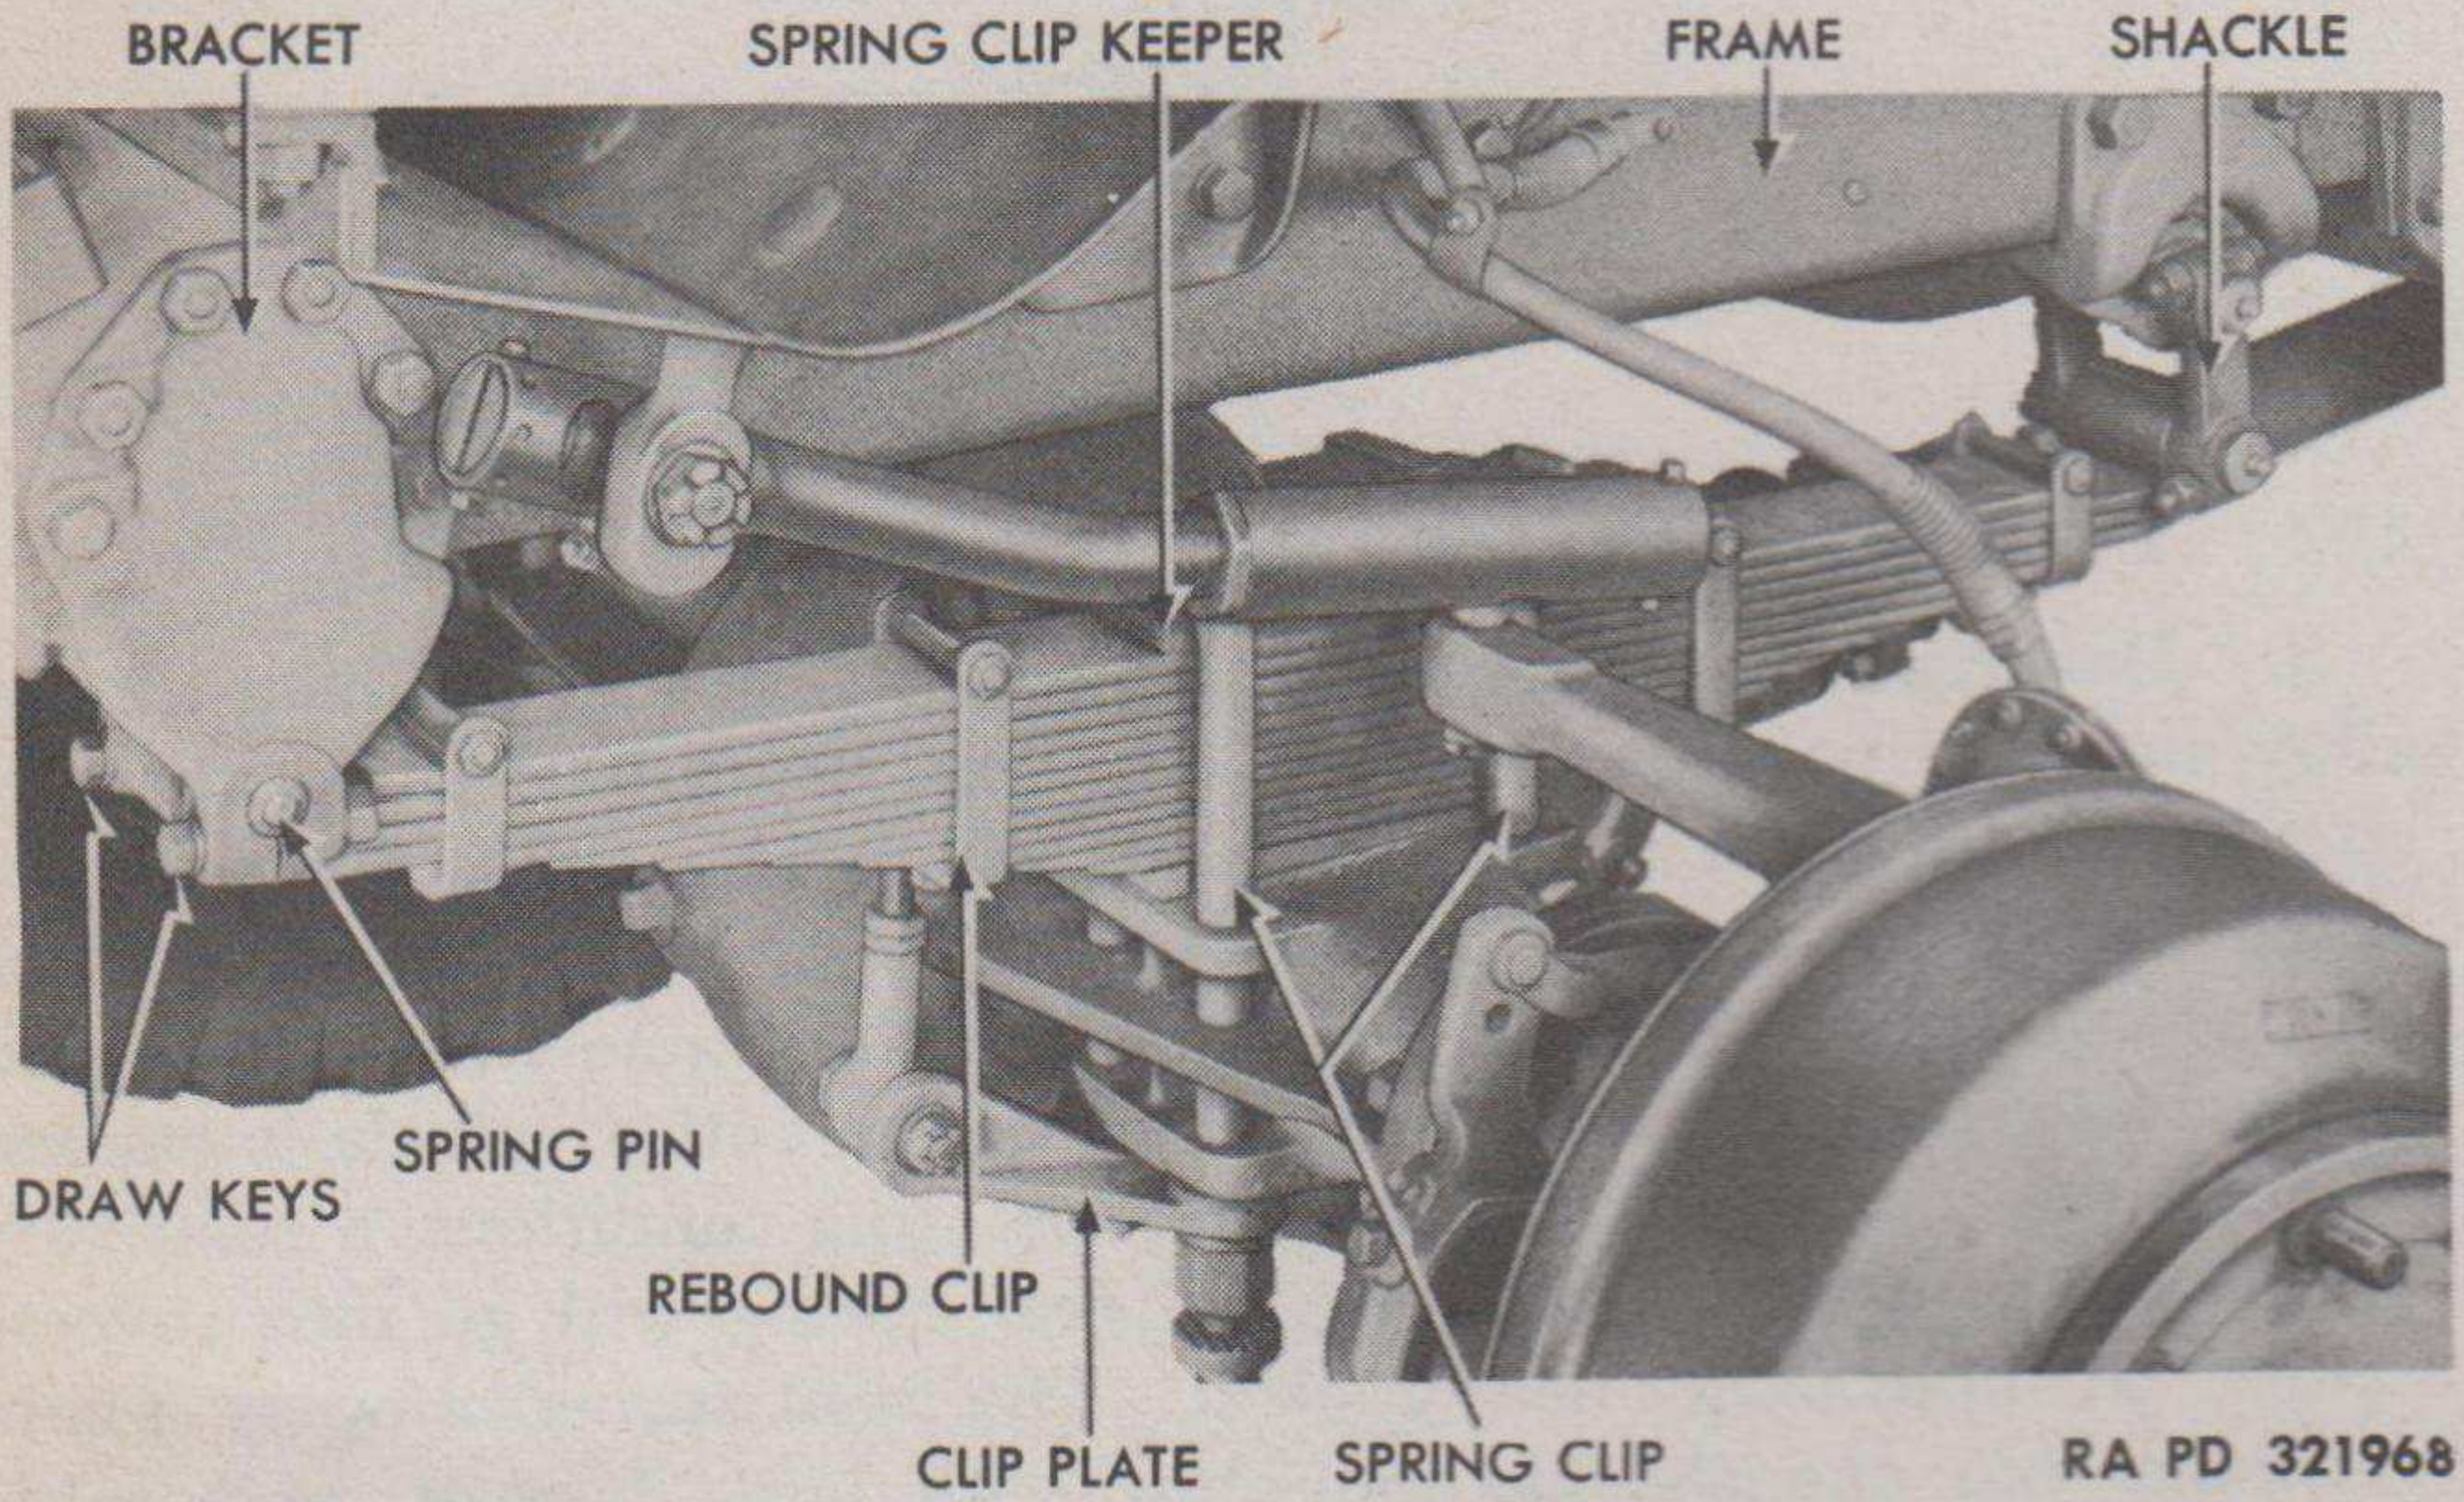

Figure 66 — Front Spring Installed
a. **Disassemble Front Spring** (fig. 66). Press spring bushings from spring. Remove center bolt nut, and drive center bolt from spring. Remove spring rebound clip bolt nut from rebound clip bolt on each of the four rebound clips. Pull bolts from rebound clips. Separate spring leaves. Remove nut, lock washer, and plow bolt which secure each of the four rebound clips to spring leaf.
a. **Assemble Front Spring** (fig. 66). Coat spring leaves with graphite lubricant. Attach each of the four rebound clips to spring leaf with plow bolt, lock washer, and nut. Assemble spring leaves, and install rebound clip bolt and nut in each rebound clip. Tap center bolt into spring from bottom of spring, and install center bolt nut. Press spring bushing into each end of spring.